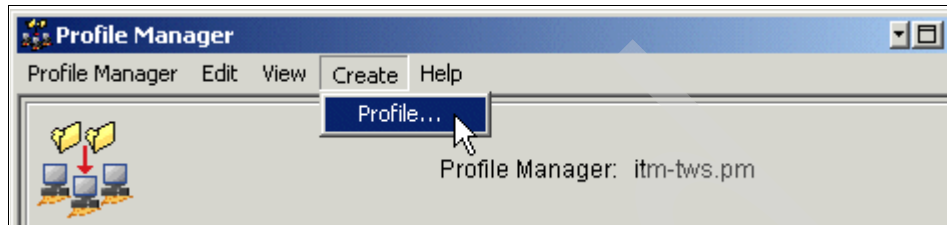

Figure 9-26 Creating a profile to hold resource models.
1. Select **Create** → **Profile...** as shown in Figure 9-26.